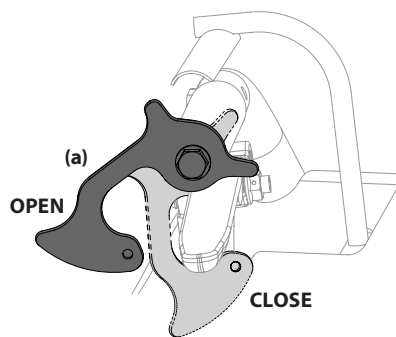

Figure 4-22
5. Move the neutral lock levers into the CLOSED. See Figure 4-22.
7. CLOSE the neutral lock levers (see Figure 4-22) and move the speed control lever to verify that there is no creeping. If the mower still creeps, try the adjustment again.